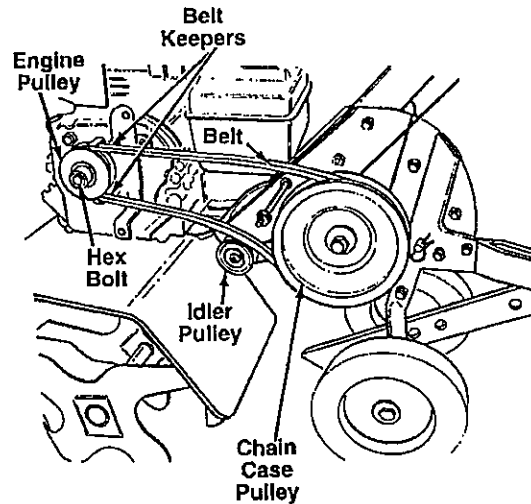

FIGURE 16-Model 340 Only
4. Loosen the hex bolt which secures the engine pulley. See figure 16. Slide the pulley half out from between the belt keepers. Remove the belt.
MODEL 340 ONLY: Upon reassembly, make certain the belt is routed in between the belt keepers at the engine pulley, and over the idler pulley as shown in figure 16.